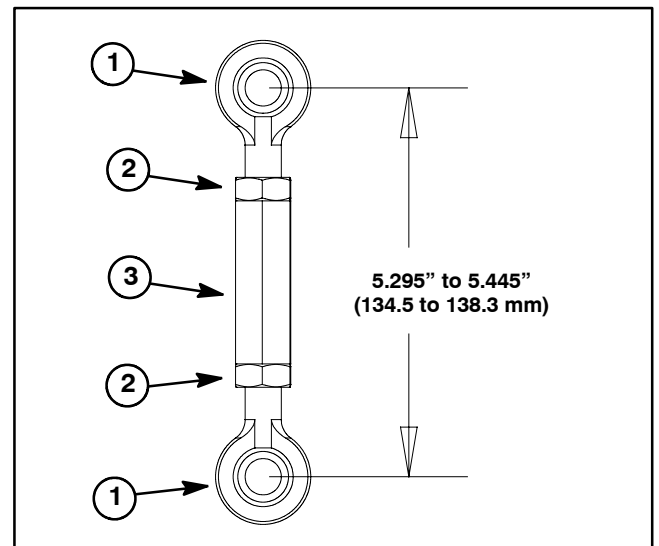

Figure 11
6. Remove two (2) cap screws and nuts securing plate to rear arm housing. Remove spring shaft assembly from housing.
8. Thoroughly pack spring with grease. Install spring shaft assembly into housing and secure plate with four (4) cap screws and lock nuts.
9. Thread rod end (item 8) with jam nut (item 9) into end of spring shaft. Do not tighten jam nut at this time.
10. If rod ends (item 31) were removed from damper (item 30), apply Loctite #271 (or equivalent) to damper shaft threads before installing rod ends. Secure damper to bellcrank and rear arm with cap screws and lock nuts.
11. If damper link was disassembled, adjust the length of the link from **5.295" to 5.445" (134.5 to 138.3 mm)** (Fig. 11).
12. If damper springs (item 37) were removed, tighten lock nuts so that bushings (item 36) are free to rotate.